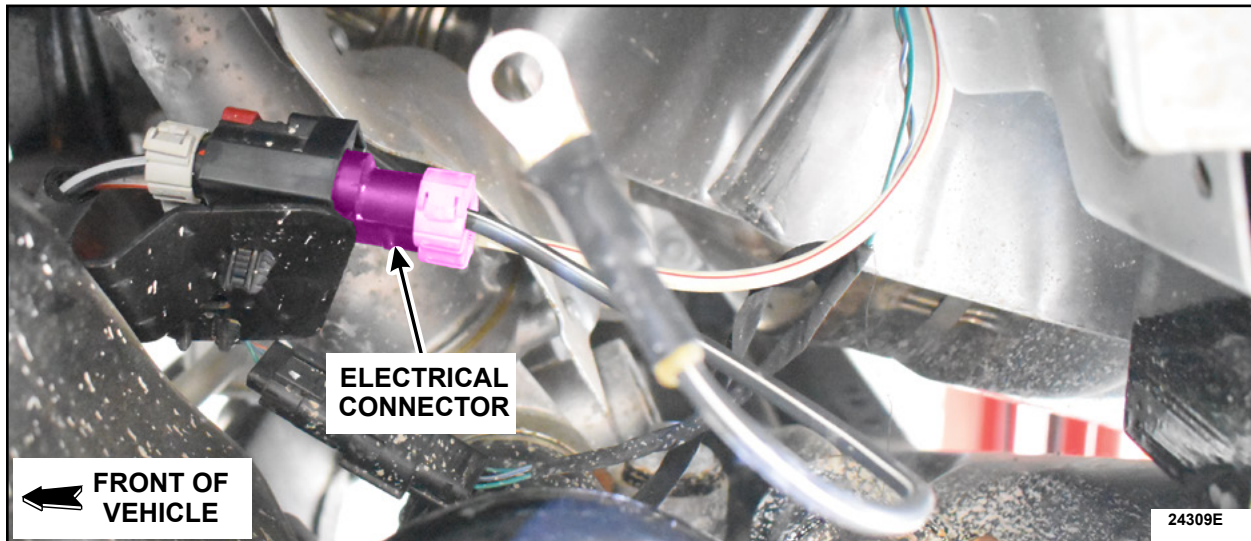

FIGURE 5
8. Disconnect the electrical connector. See Figure 5.